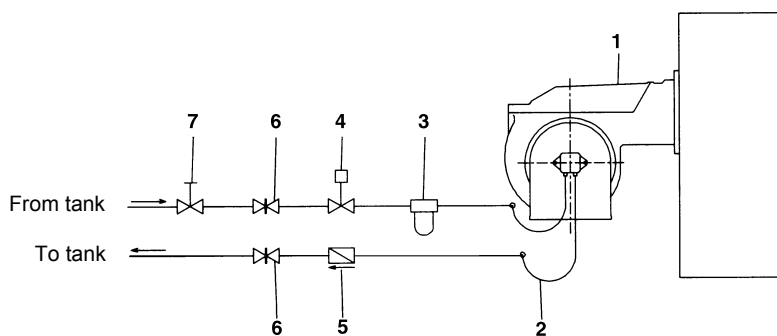

Fig. 9 - Double-pipe system
**NOTE:** in plants where gravity or ring feed systems are provided, install an automatic interception device (see n. 4 - Fig. 9).